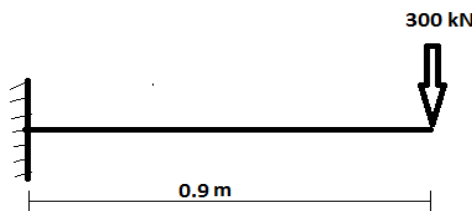

Fig. 5
7. A cantilever beam is subjected to point load of 300 kN as shown in **Fig. 5**. Determine the deflection at tip and support reaction. $E = 210 \text{ GPa}$, $I = 4 \times 10^6 \text{ mm}^4$, $l_e = 0.9 \text{ m}$. 14M